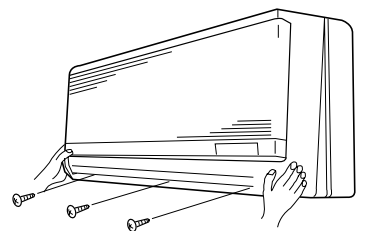
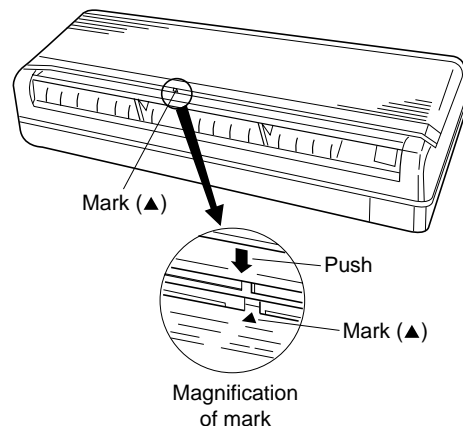

Fig. 3-55
Fig. 3-56
- (1) Set the flap in the horizontal position.
- (2) Remove the screws. (Fig. 3-55)
- (3) Remove the grille.
- (4) When replacing the grille, push the grille at the mark (▲) as shown in Fig. 3-56 until the grille clicks back into place.